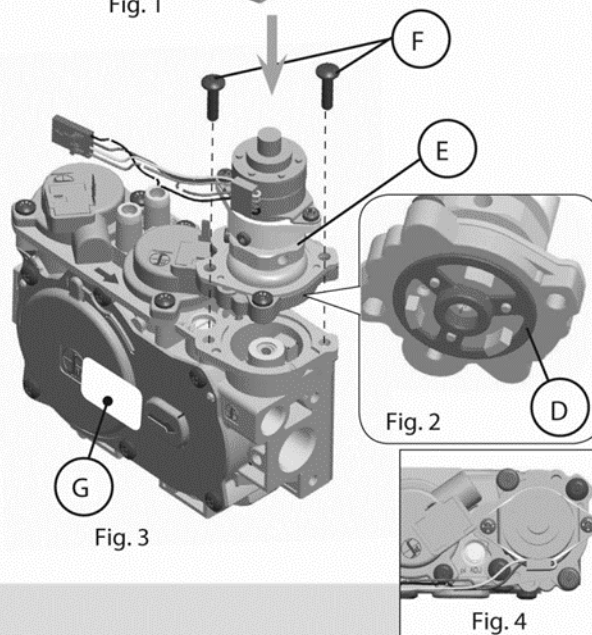

Fig. 3
- 4 Install the new STEPPER MOTOR pressure regulator assembly, as shown in Fig. 3 and Fig. 4. Use the supplied screws (F), M4 x 0.7 threaded, length of thread $L=(16\text{ mm} + 0 - 0.5\text{ mm})$, steel material, resistance class 8.8 (see Fig. 5).